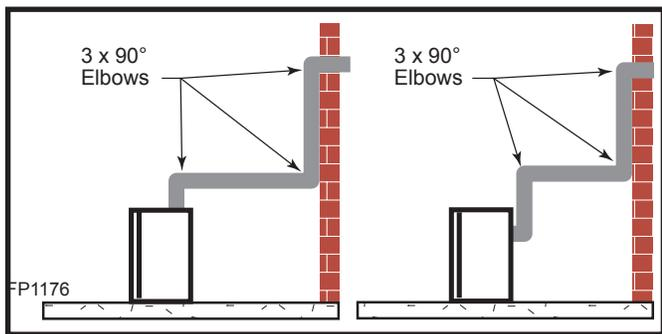
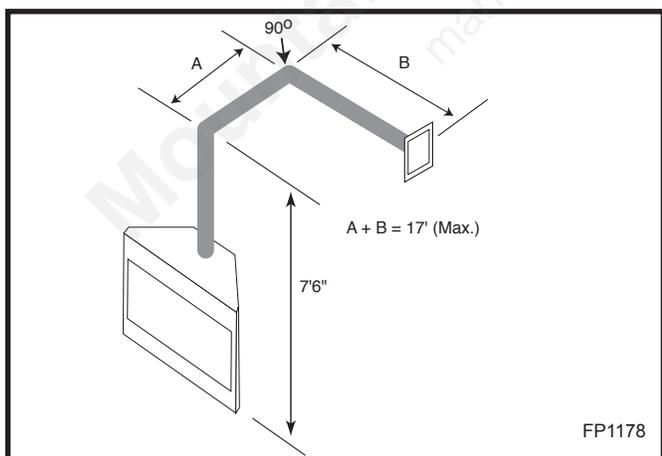

Fig. 26 Maximum three (3) 90° elbows per installation.
Fig. 28 Horizontal run reduction.
- The maximum number of 90° elbows per side wall installation is three (3). (Fig. 26)
- If a 90° elbow is used in the horizontal vent run (level height maintained) the horizontal vent length is reduced by 36" (914mm). (Fig. 28, 29) This does not apply if the 90° elbows are used to increase or redirect a vertical rise. (Fig. 26)
In Figure 28 & 29, dimension A plus B must not be greater than 17' (5.2m)